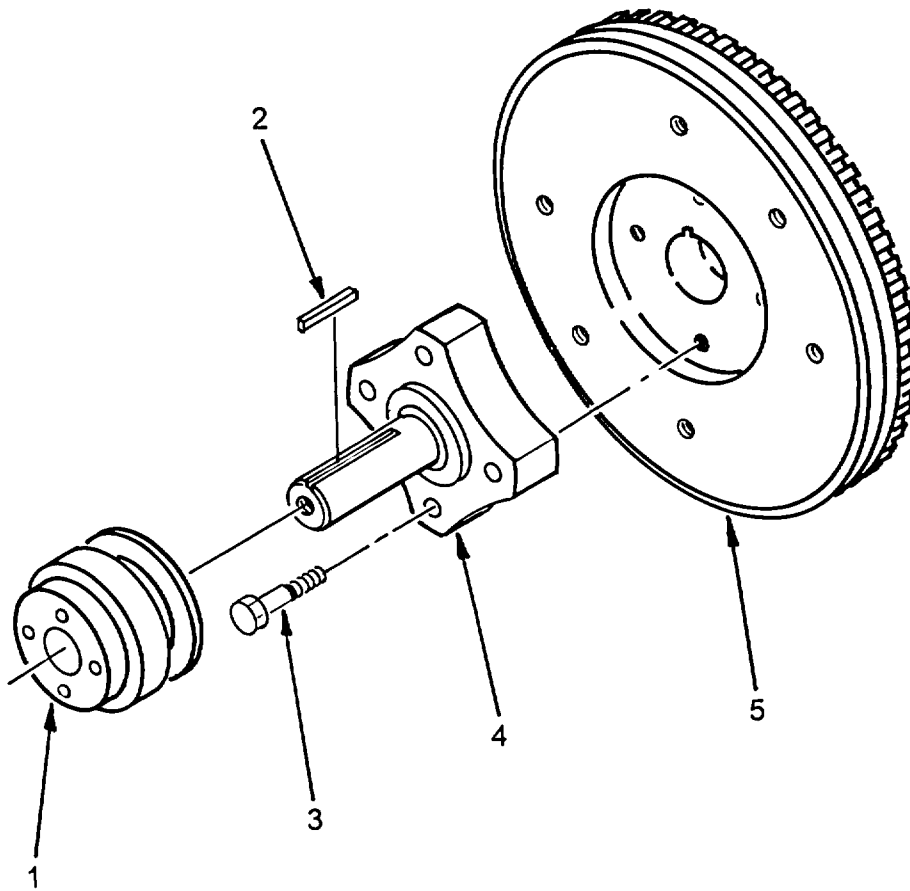

Figure 4-39. Flywheel Pulley and Shaft
- (a) Install lower seal (8) and upper seal (7) over center bolt (1) in filter bowl (3).
- (b) Install bowl seal (6), element washer (5) and filter element (4) on filter head (2).
- (c) Install filter bowl (3) on filter head (2) and tighten center bolt (1).
- (d) Fill the fuel tank and prime the filter by loosening both vent screws (22) on filter head (2).
- (e) When no further air bubbles are escaping, close both vent screws (22) starting with the one nearest the fuel tank.
(1) Removal. (Refer to Figure 4-39.)